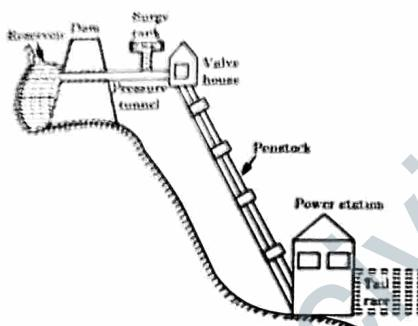

Fig. 4.23.1. General layout of a hydroelectric power plant.
- A. General Layout :** Fig. 4.23.1 shows a general layout of a hydroelectric power plant in which an artificial storage reservoir formed by constructing dam has been shown.